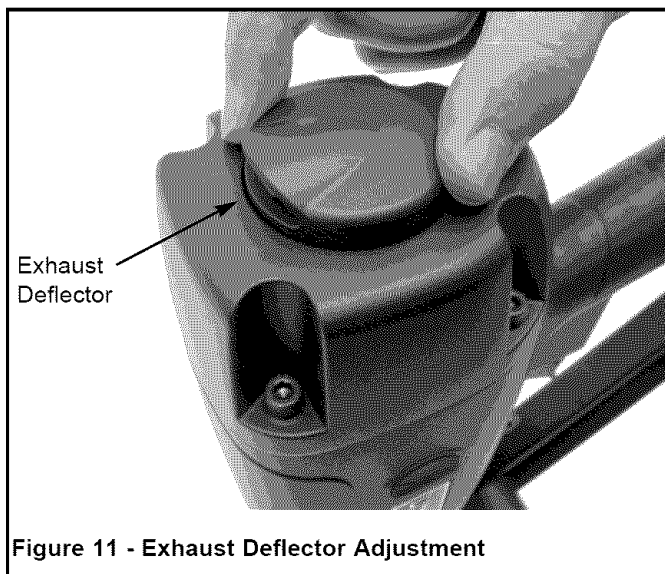

Figure 11 - Exhaust Deflector Adjustment
- Exhaust deflector can be positioned to point in any direction (full 360° movement). Reposition deflector by grasping firmly and rotating to the desired position (see Figure 11.)